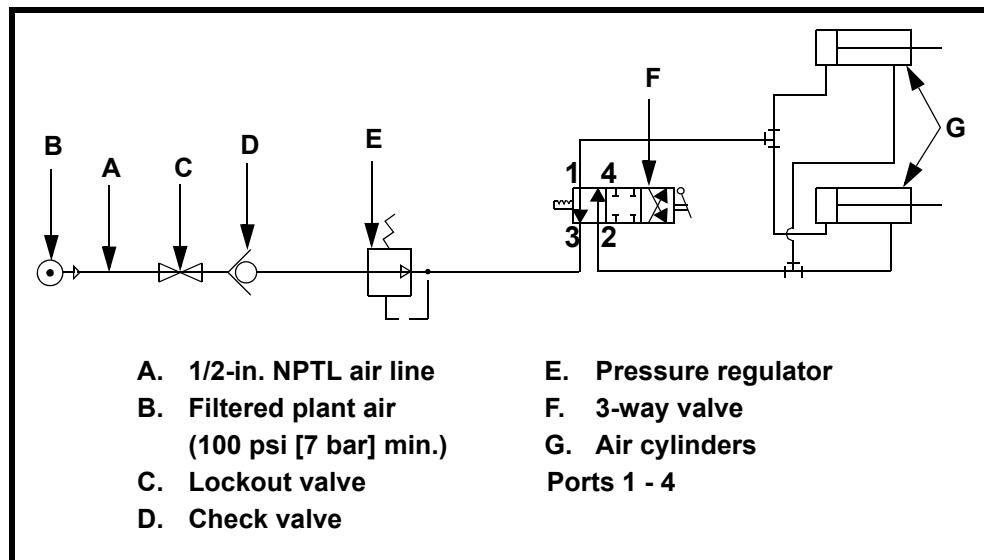

Figure 7. Air Cylinder Schematic
1. Install air line to air tensioner as shown in Figure 7.